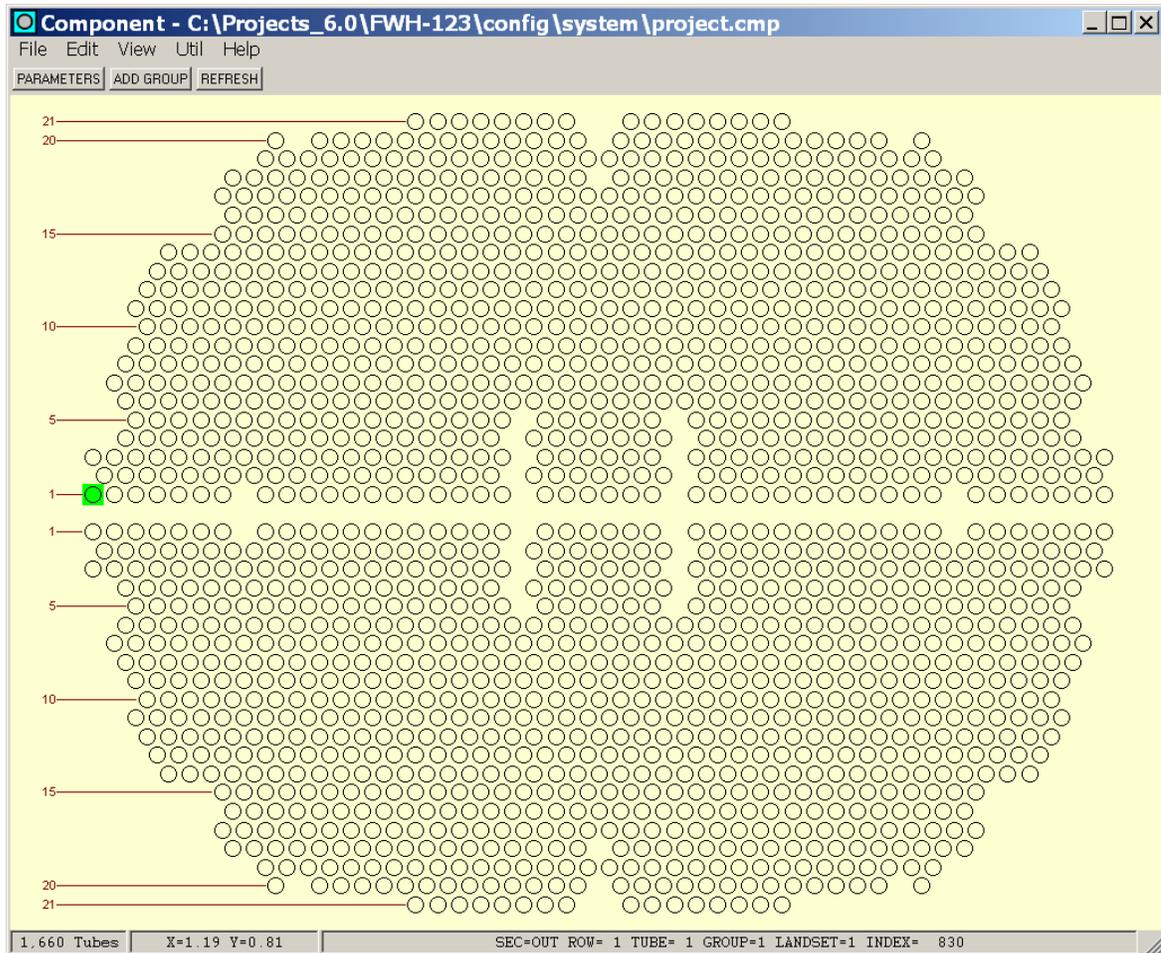
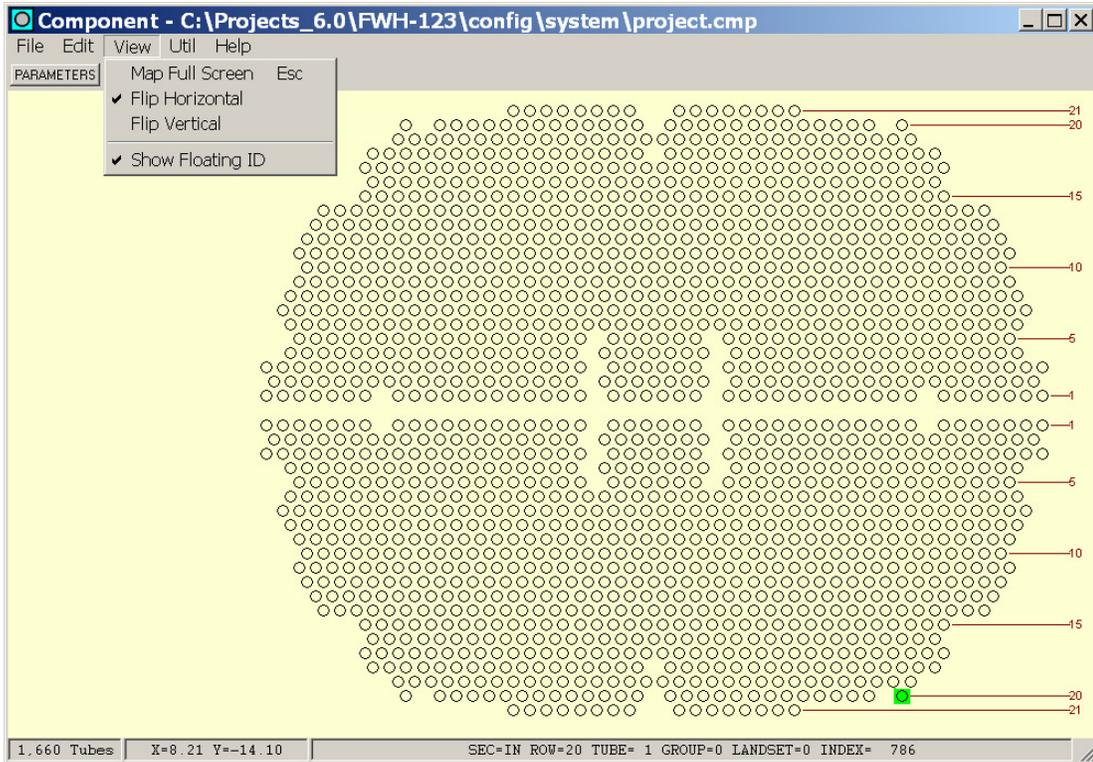

Figure 1. The Main MakeComp Window
Figure 14. Example of the Flip Horizontal Function
To start the MakeComp software, double-click the MakeComp icon on the Windows Desktop or located in the EddyVision 6.0 folder of the Start menu. After the program starts, the main window of the MakeComp program shown in Figure 1 will appear. The project that was open during the last program session will automatically open and the model or component (*cmp*) file displayed as shown in Figure 1.
**Align Ends:** If enabled (green), row ticks will be lined up as shown in Figure 1; else, the length of each row tick will be determined by the **Tick Length & Max Length** settings.
In most cases, you will only need to build any tubesheet map only once. Figure 14 shows the tubesheet map from Figure 1 after the **View | Flip Horizontal** function has been applied. Note in the **View** menu of Figure 14 that the **Flip Horizontal** is active as indicated by the small checkmark next to the selection. The horizontal flip is obvious since the row numbers now appear on the right side of the tubesheet map. Row numbers (ticks) are always anchored next to the first tube for a given row.